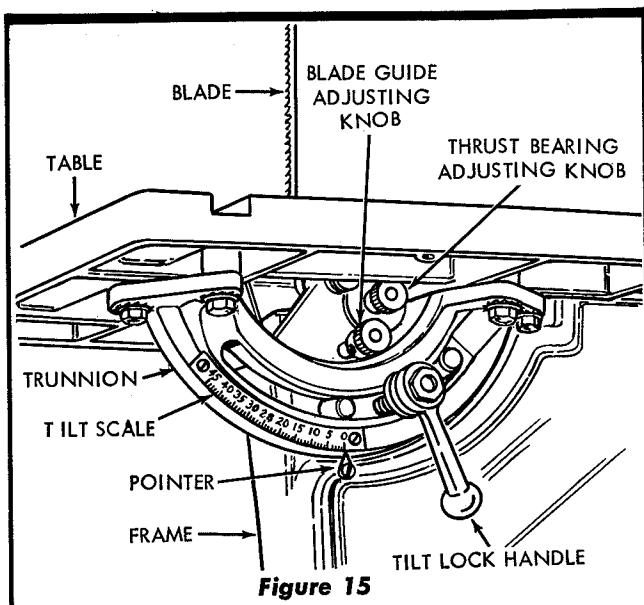

Figure 15
- a. Loosen the thrust bearing set screw (figure 14) with a 1/8-inch hex-L wrench and rotate the thrust bearing adjusting knob (figure 15) until the thrust bearing clears the back edge of blade the thickness of newspaper stock. Tighten the set screw securely.
set screw recess (figure 14), and rotate the blade guide adjusting knob (figure 15) until the ledge on lower blade guide bar holder is approximately 1/64-inch rearward of the blade gullets. (Refer to figure 13 which shows the same dimension on the upper guide.) When correctly adjusted, the blade guides will contact the blade on the solid portion only, not on the teeth or the gullets. Tighten the set screw at the bottom of the recess securely and recheck to make sure tightening the screw did not alter the adjustment.
- a. Loosen the tilt lock handle (wrench) (figure 15) and move the saw table to a horizontal position (until rear edge of table touches the frame.) Tighten the tilt lock handle (wrench) just enough to keep the table "snug", but loose enough to be slipped with hand force.
- e. After adjusting the table to the 90° position, tighten the tilt lock handle. Loosen the pointer attaching screw (figure 15), set the pointer to the exact "0" position on the tilt scale and tighten the pointer screw.
- e. Remove the lower guide assembly by loosening the set screw in the lower guide knob (figure 15), removing the knob and turning the lower guide adjusting screw until the guide assembly can be slipped off the pin.
- f. Loosen the set screw (figure 14) that secures the lower blade thrust bearing, rotate the thrust bearing adjusting knob (figure 15) to position the bearing rearward to its limit of travel. Tighten the set screw (figure 14) and remove the thrust bearing by removing the slotted pan-head screw at the center of the bearing.